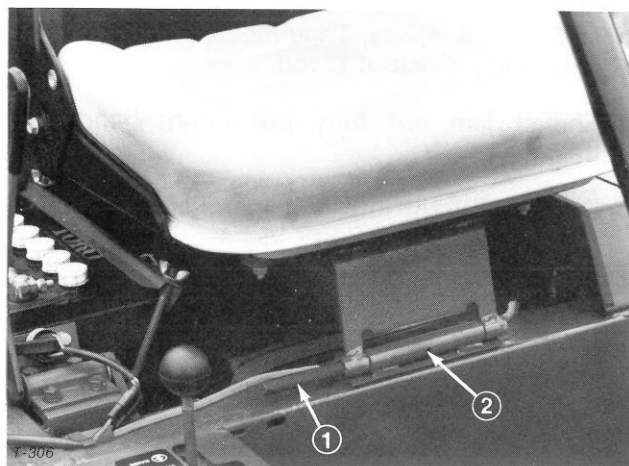

Figure 8
5. Mount seat and seat support to unit with pivot shaft and roll pin (Fig. 8).